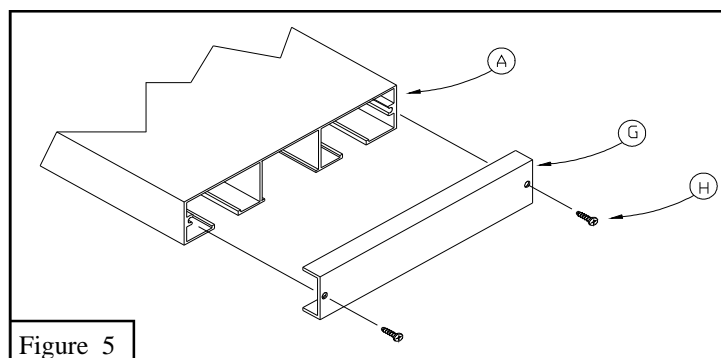

Figure 5
3. Install *Seat End Caps (G)* using *#10 x 3/4" Sheet Metal Screws (H)*. See Figure 5.
3. Install *Seat End Caps (G)* using #10 x $3/4''$ *Sheet Metal Screws (H)*. See Figure 5.